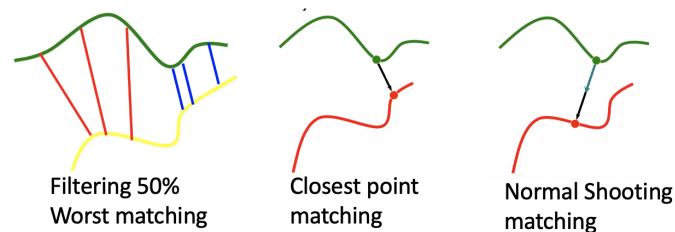

Figure 2: Illustration of the ICP optimisation tricks.
- `icp.py` contains a very basic implementation of the ICP method, without any pre-processing nor point association improvements. Matching is done with the nearest point (fig. 2, middle) using `kdtrees`³
Question 2 : Implement match filtering by keeping the XX% best matching (fig. 2, left). Try different values for XX and show the consequences (error, variance, computation time,...).
Question 4 : Implement matching using 'normal shooting' (fig. 2, right) instead of nearest neighbor matching and compare with the previous approach.